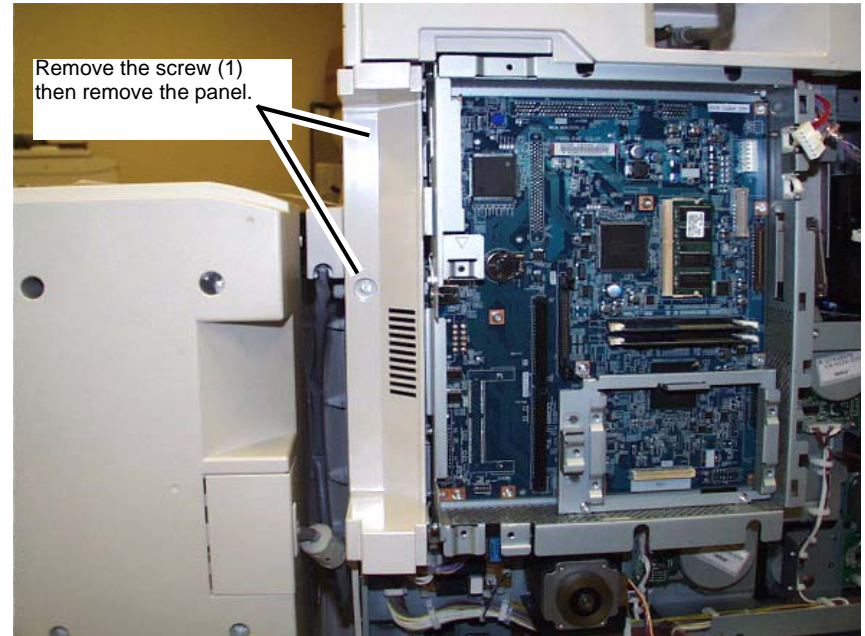

Figure 6 Removing the Right Rear Side Panel
8. Remove the Right Rear Side Panel. (Figure 6)